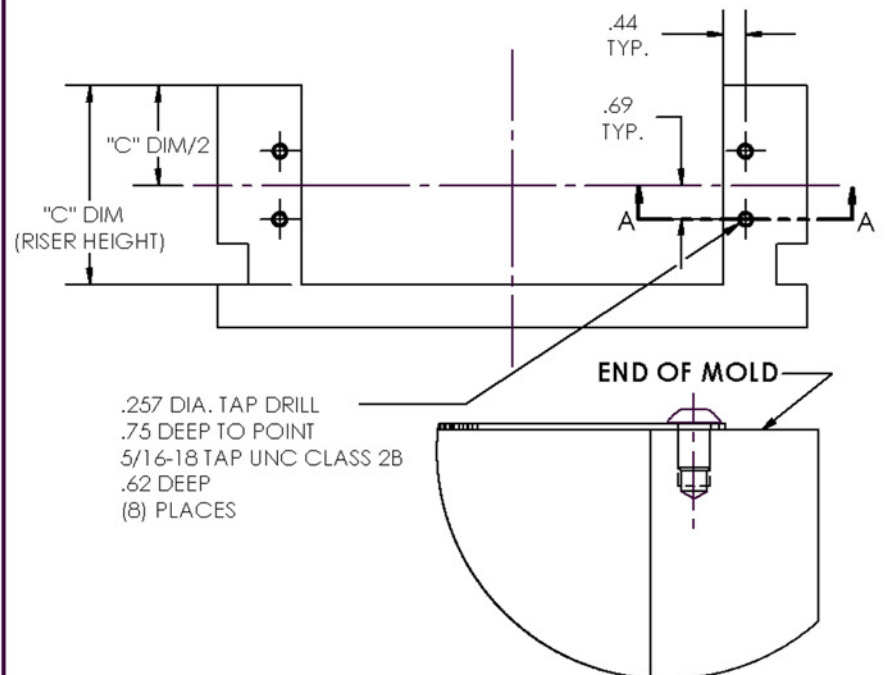

FIGURE 1
1. DRILL, TAP AND COUNTERSINK FOR 5/16-18 UNC CLASS 3-A BUTTON HEAD CAP SCREWS IN LOCATIONS, AS SHOWN IN "FIGURE 1", ON BOTH ENDS OF EJECTOR HOUSING RISERS FOR MOUNTING EJECTOR HOUSING COVERS ON OUTSIDE SURFACE OF MOLD.
7. FOR EXTENDED EJECTOR BAR APPLICATIONS, WHERE THE EJECTOR BAR IS LONGER THAN THE MOLD BASE LENGTH, THE CUSTOMER MUST FABRICATE EJECTOR HOUSING COVERS TO SUIT FOR BOTH ENDS OF MOLD TO REDUCE ANY PINCH POINT HAZARDS DURING MOLD OPERATION. REFER TO INFORMATION ON INSTRUCTION SHEET EHCS-9985 FOR RECOMMENDED CUSTOMER FABRICATION OF EJECTOR HOUSING COVERS ON BOTH ENDS OF MOLD BASE USING THE SAME MOUNTING HOLE POSITIONS, AS SHOWN IN "FIGURE 1".